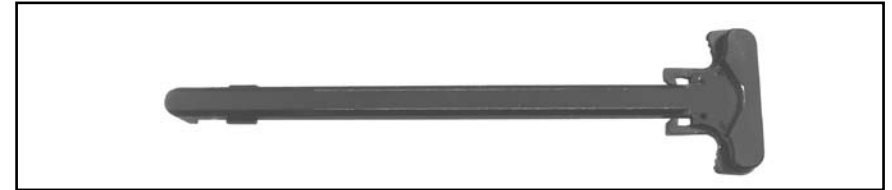

Fig. 71 – Lubrication of MR762A1 Charging Handle
5. Apply a medium coat of lubricant to the interior and exterior surfaces of the charging handle (Fig. 71).